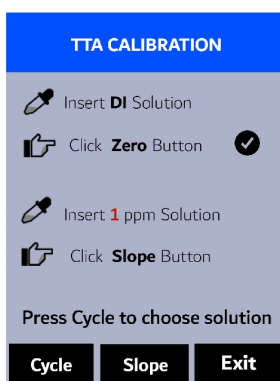

Figure 5.
5. If the calibration succeeds, a checkmark () and instructions for the slope calibration will appear (Figure 5).